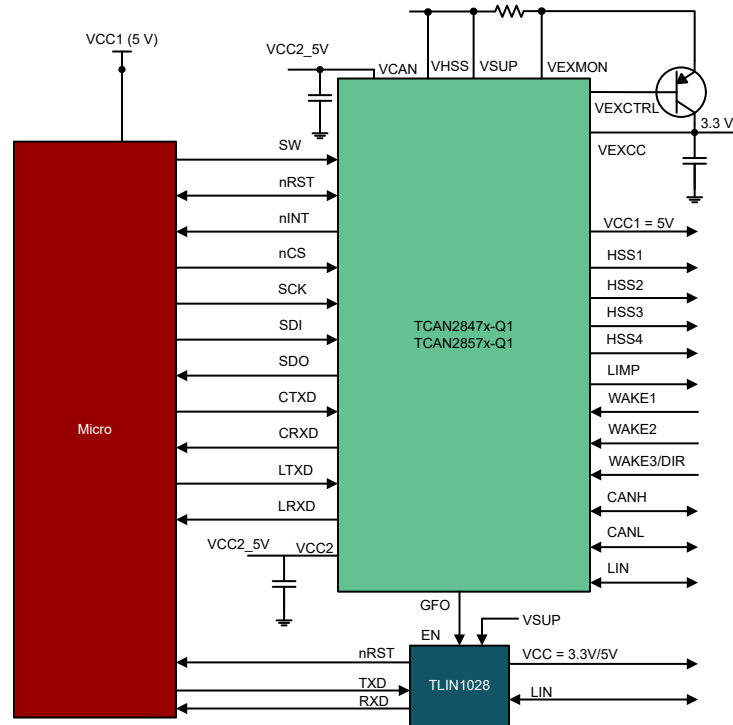

Figure 10-5. Channel Expansion with LIN SBC
- A second SBC with a LIN transceiver can be implemented by using the TCAN2847x-Q1 and the TLIN1028x, see Figure 10-5